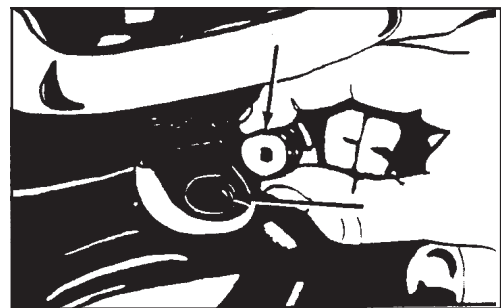

Figure 11
1. To clean the ventilation opening in the center of the plug, remove the plug from the machine. With the plug removed, also inspect the grease in the gearbox. See figure 11.